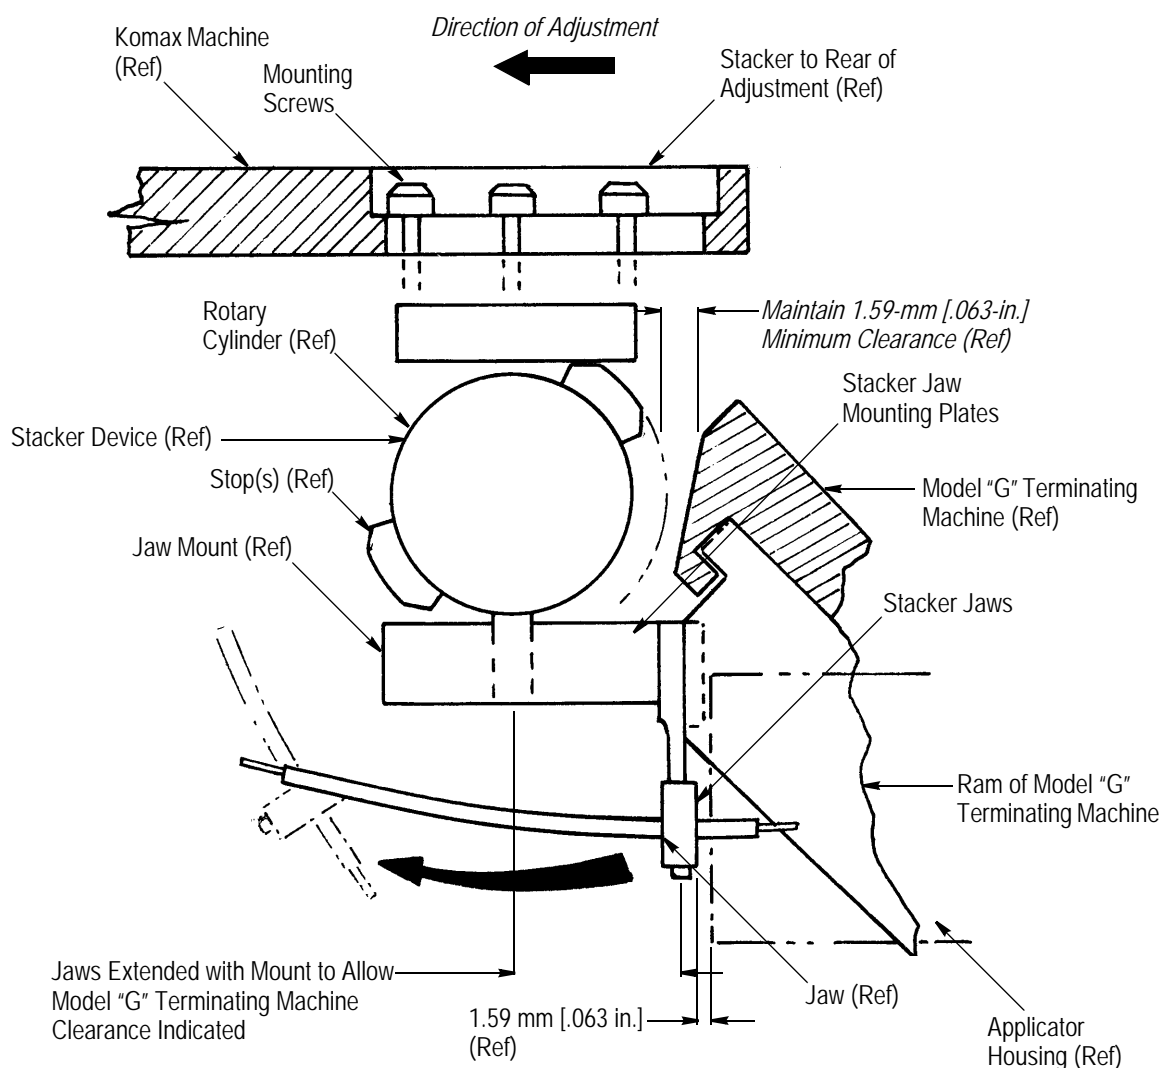

Figure 7
5. Loosen the three mounting screws securing the eject stacker cylinder and adjust it away from the terminating machine as far as possible. Tighten the mounting screws. See Figure 7. Check for proper clearance throughout the movement range of the stacker jaws.
6. Remove the eject stacker jaw mounting plates and replace them with one of the mounting plates included with the interface kit. See Figure 7.